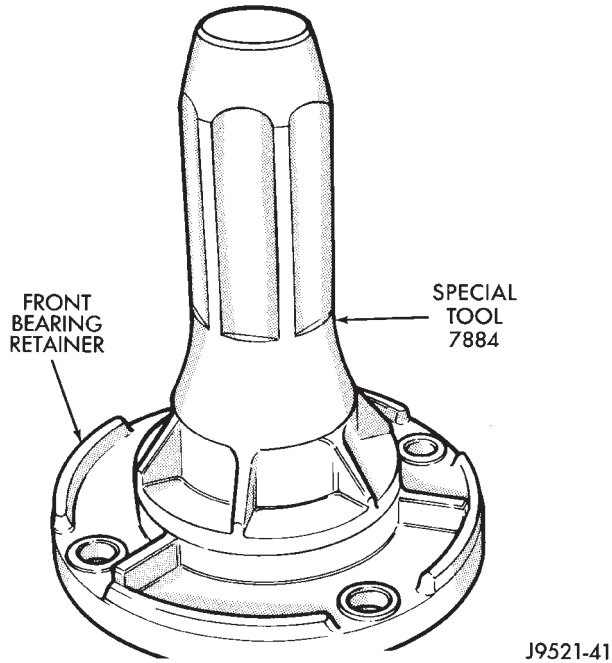

Fig. 51 Install Front Bearing Retainer Seal
(15) Remove front bearing retainer seal with suitable pry tool.
(16) Install new front bearing retainer with Installer 7884 (Fig. 51).